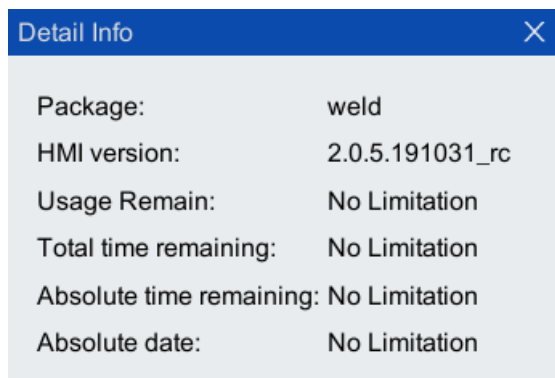

Fig. 3-16 "View Details" interface
Step 3. Click "See details" to view the details about the feature pack, as shown in Fig. 3-16.